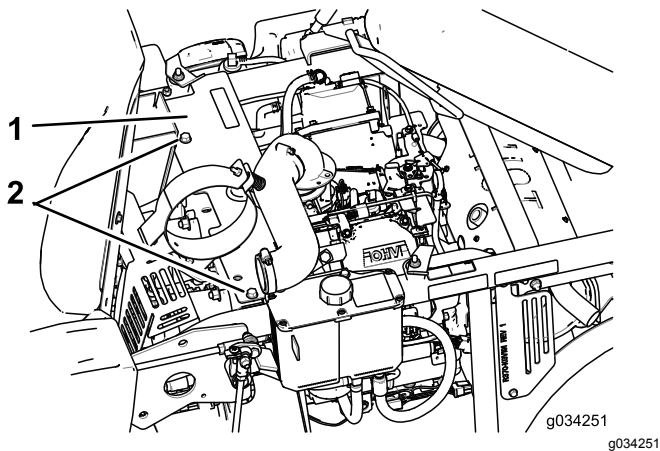

Figure 30
7. Lubricate the pump-belt idler arm (Figure 30).